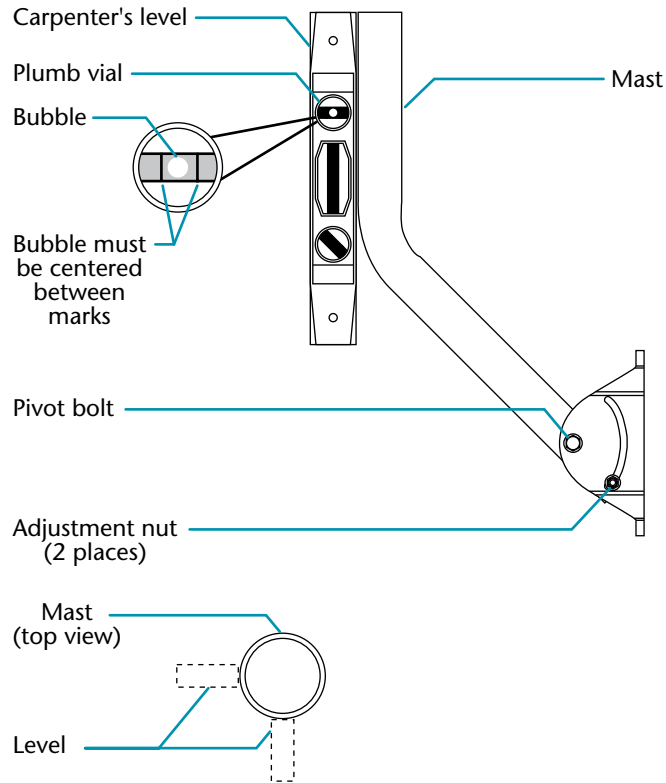

Figure 4-36. Verifying the mast is plumb
3. Using a carpenter's level, plumb the antenna mast in at least two different locations on the side of the mast, as shown in figure 4-36. These two measurements should be at right angles to each other.
If the mast is plumb (aligned vertically with the bubble level), go to step 5. Otherwise, loosen the adjustment nuts (see figure 4-36).